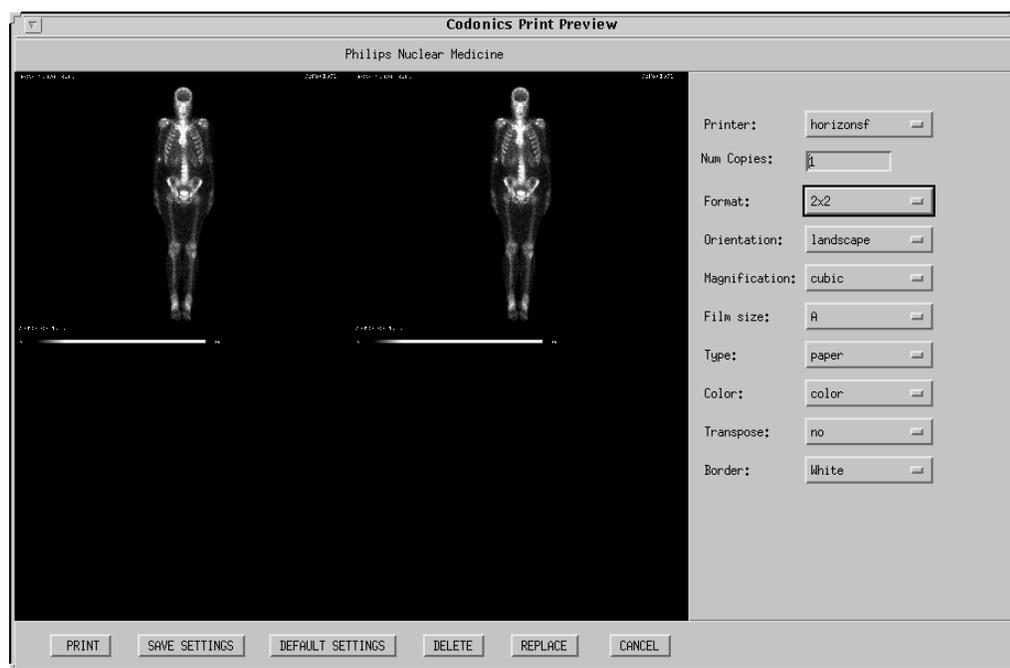

Figure 6 Codonics Preview application
1. If necessary, bring the **Codonics_preview** screen (Figure 6) to the front, by doing one of the following:
4. Click **Format** and select a layout configuration. For example, Figure 6 displays a 2 × 2 layout.